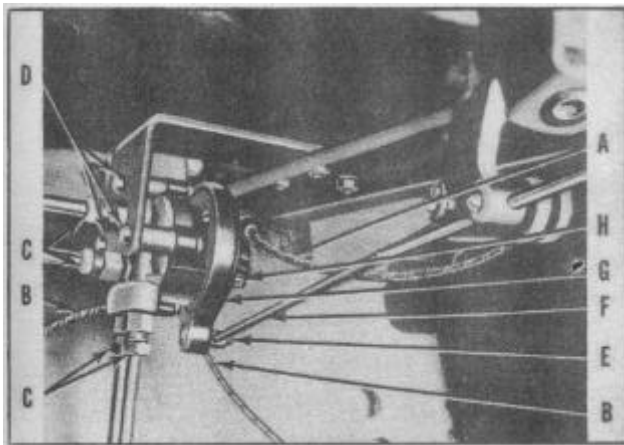

FIGURE 109
1. Loosen set screw (E), Figure 109, and remove control rod (F) from cap of valve (G).
2. Remove wires from valve cover (A) and valve body (B).
3. Disconnect four hydraulic inlet and outlet tubes (C) from valve body.
4. Remove screws (D) attaching valve body to support bracket.